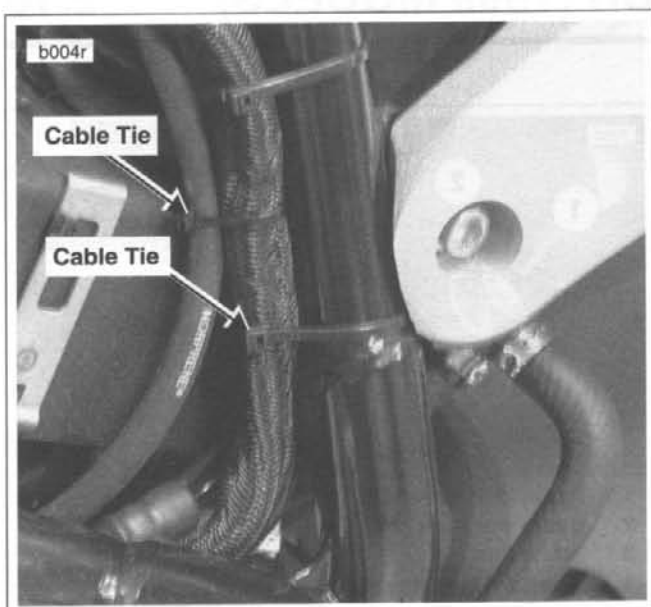

Figure 2-57. Rear Brake Line - Left Side
8. See Figure 2-57. Disconnect two wires from rear brake light switch.
12. See Figure 2-57. Cut cable tie on wiring harness and cable tie on vent tube on left side of bike.
10. See Figure 2-57. Cable tie vent hose and wire harness to frame on left side of motorcycle. NOTE: Use thick cable tie on wire harness and thin cable tie on vent hose. Use care to avoid pinching hose.